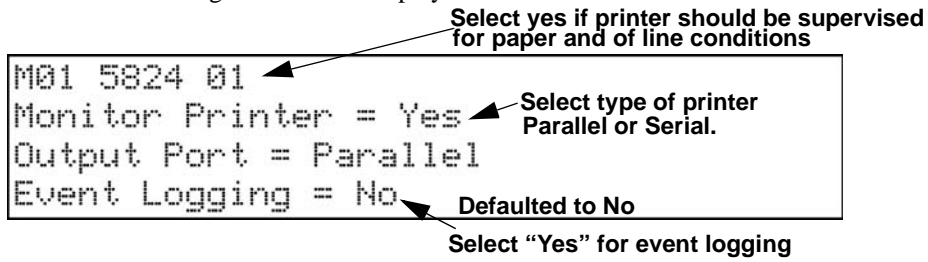

Figure 4-36 Selecting Printer and Output Port Options
5. Press right arrow twice to skip over the Enter Module ID and Enter Module Name options. A screen similar to the one shown in Figure 4-36 will display.